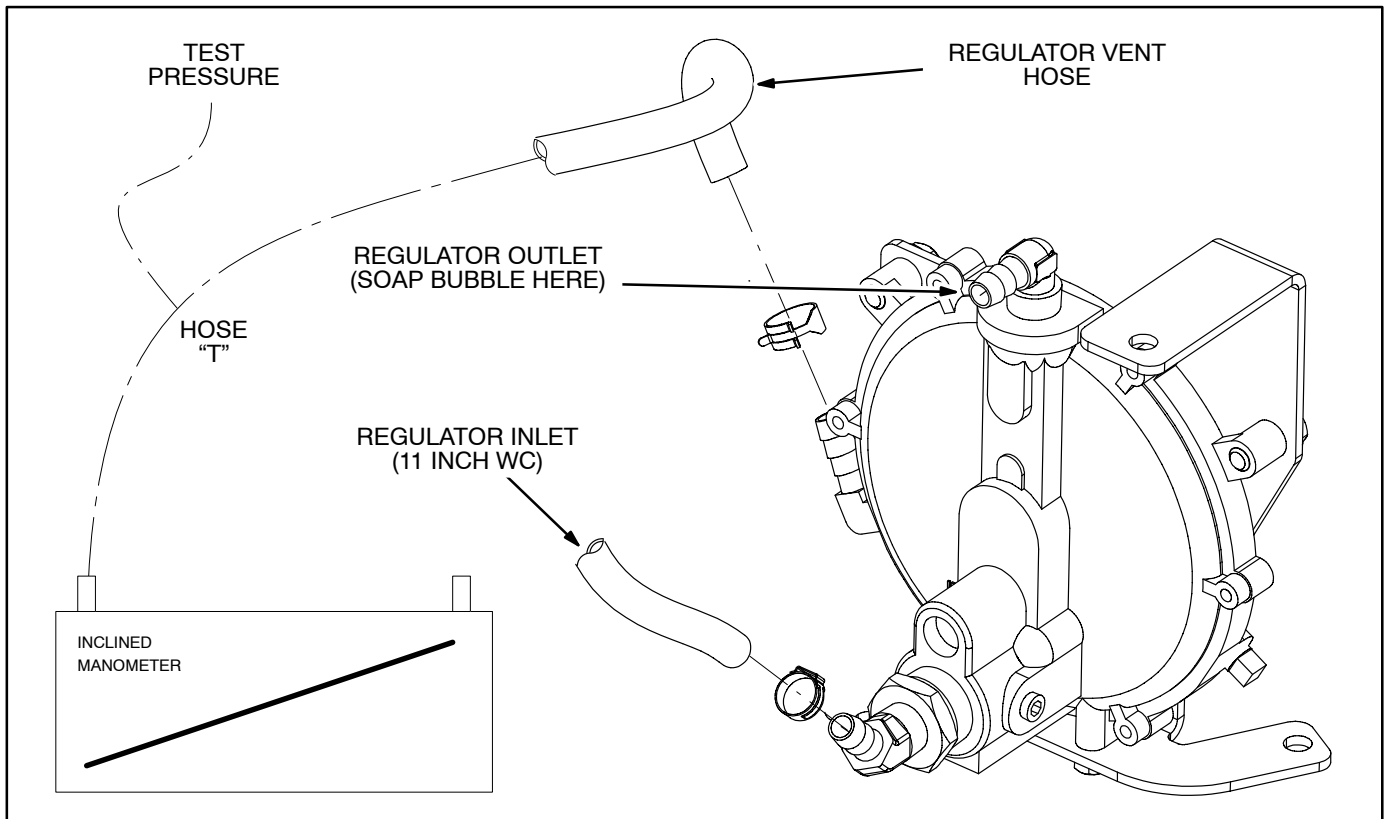
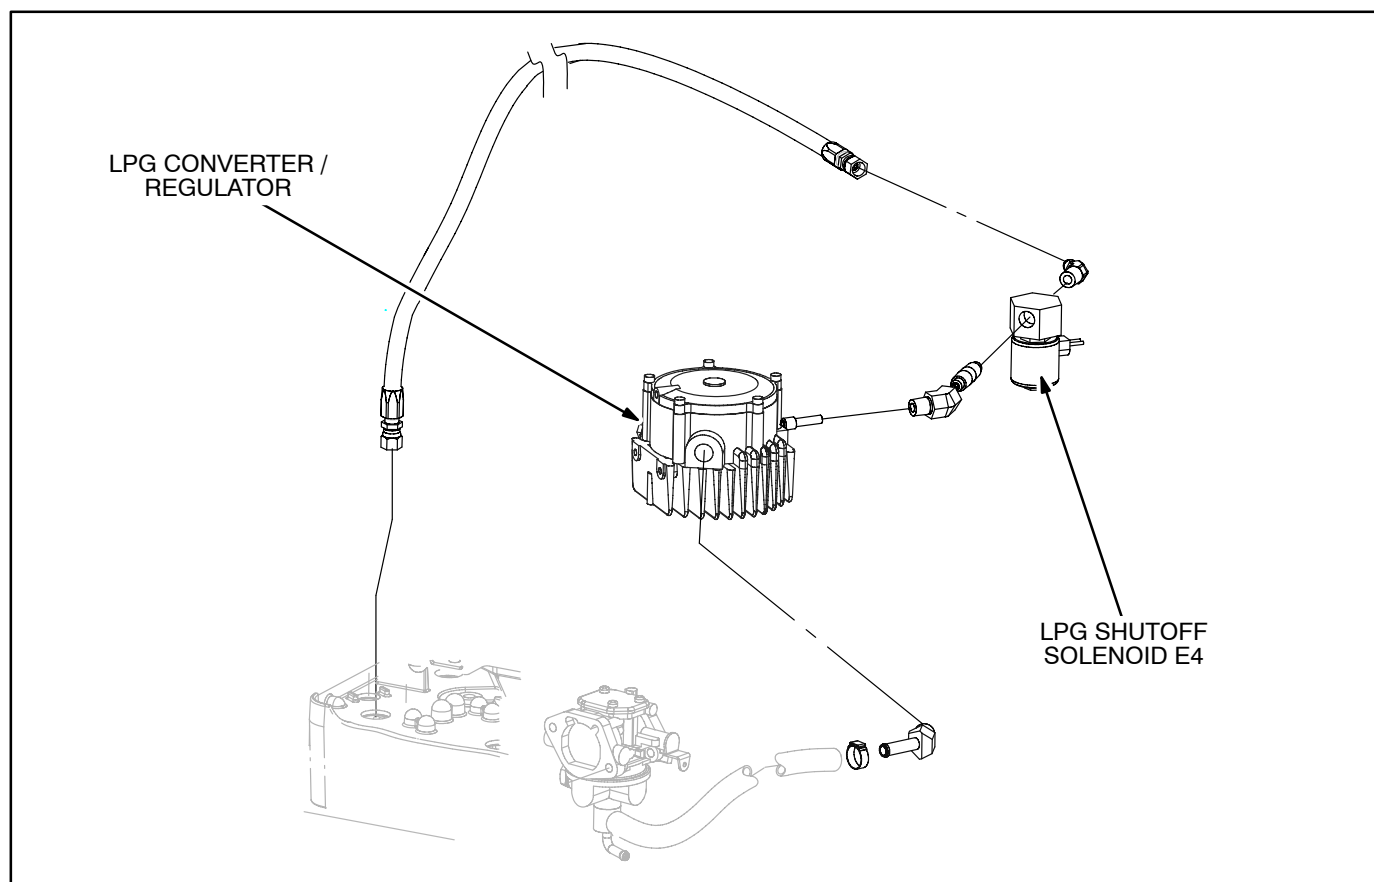

FIGURE 8-13. LOW-PRESSURE LPG LOCK-OFF PRESSURE TEST
FIGURE 8-15. HIGH-PRESSURE LPG COMPONENTS
LPG and combustion air are mixed in the proper ratio in the mixer (Figure 8-12) for good starting and good performance over the entire load range. The demand regulator on Low-Pressure LPG Models (Figure 8-13) or the converter on High-Pressure LPG Models (Figure 8-15) meters LPG to the mixer in proportion to venturi vacuum. The mechanical governor (Page 8-20) operates the throttle in the mixer to maintain constant engine speed (within a range of 5 percent) as load varies.
*Low-Pressure LPG Models* have a demand regulator that meters fuel to the carburetor (Figure 8-13). It is usually not the cause of fuel system problems. All other possible fuel system problems should first be checked out. Then conduct a lock-off pressure test as follows before replacing a demand regulator.
1. Connect the regulator inlet (Figure 8-13) to a source of air pressure regulated to 11 inches WC (28 cm).
*High-Pressure LPG Models* have a converter (liquid to vapor) that also meters fuel to the carburetor (Figure 8-15). It is usually not the cause of fuel system problems. All other possible fuel system problems should first be checked out before replacing it.
genset is not running, or any other reason to suspect that the valve (Figure 8-15) is leaking, remove the solenoid and connect the inlet of the valve to a source of compressed air (200 psi maximum). Replace the solenoid if it leaks. Use a soap bubble to check for leakage.